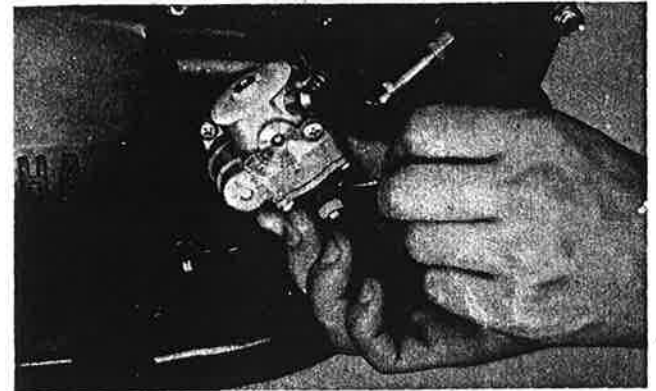

Fig. 3-1-10
5. Rotate pump pulley to full throttle position and remove wire end from pulley seat. (Fig. 3-1-10)